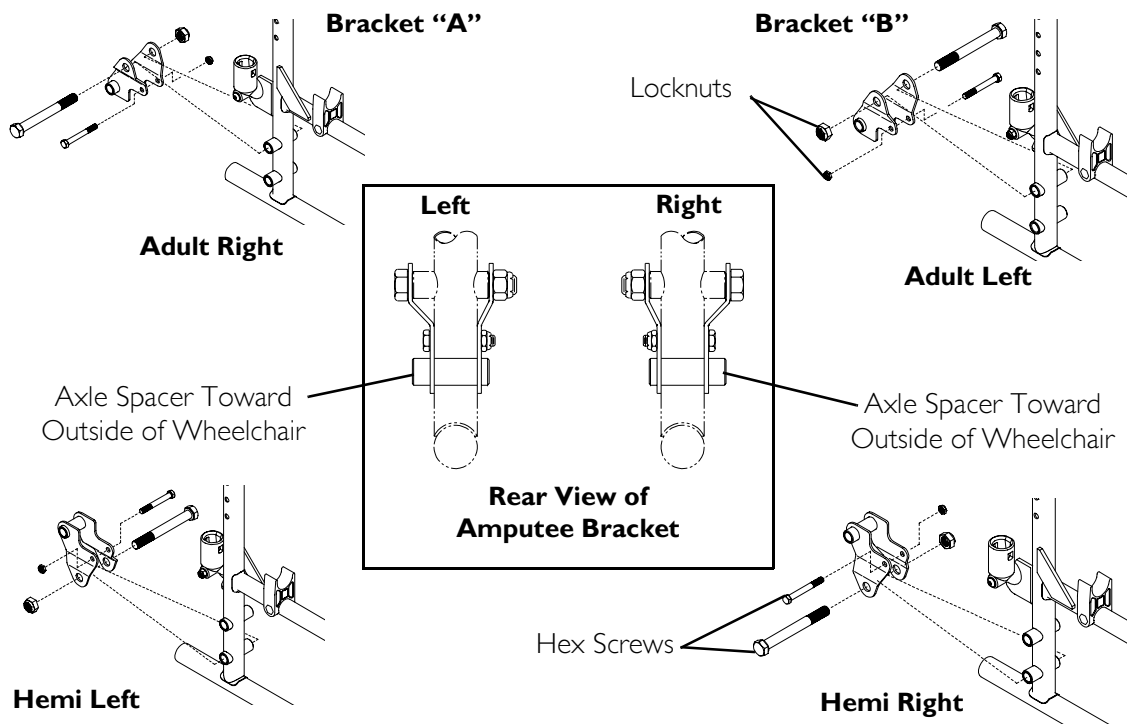

FIGURE 11.1 Installing Amputee Bracket
NOTE: For this procedure, refer to FIGURE 11.1 on page 53.
1. Refer to the following chart or FIGURE 11.1 to determine the mounting position of the amputee bracket: